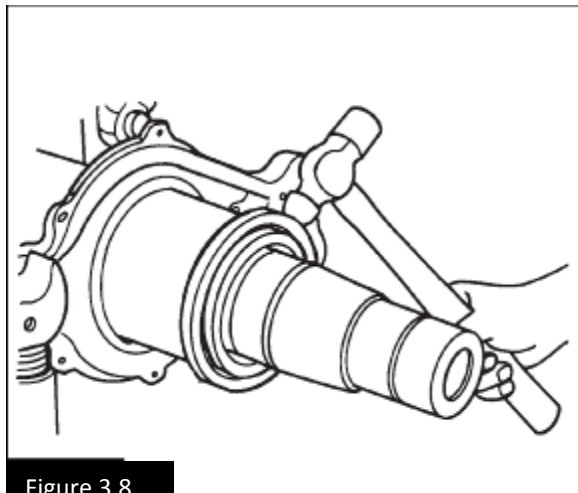

Figure 3.8
11. If the seal incorporates a separate Oil Seal Ring on the oil seal collar, loosen it by lightly striking with the round end of a ball-peen hammer, then remove it and discard. Figure 3.8.